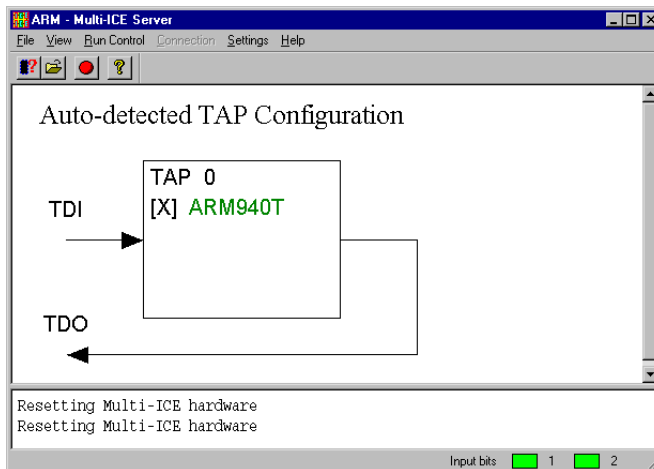

Figure 3-4 Auto configure
6. Select **Auto configure** to initialize the server and target board. See Figure 3-4 on page 3-8.